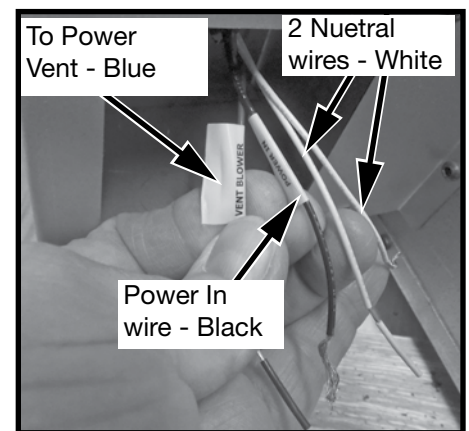
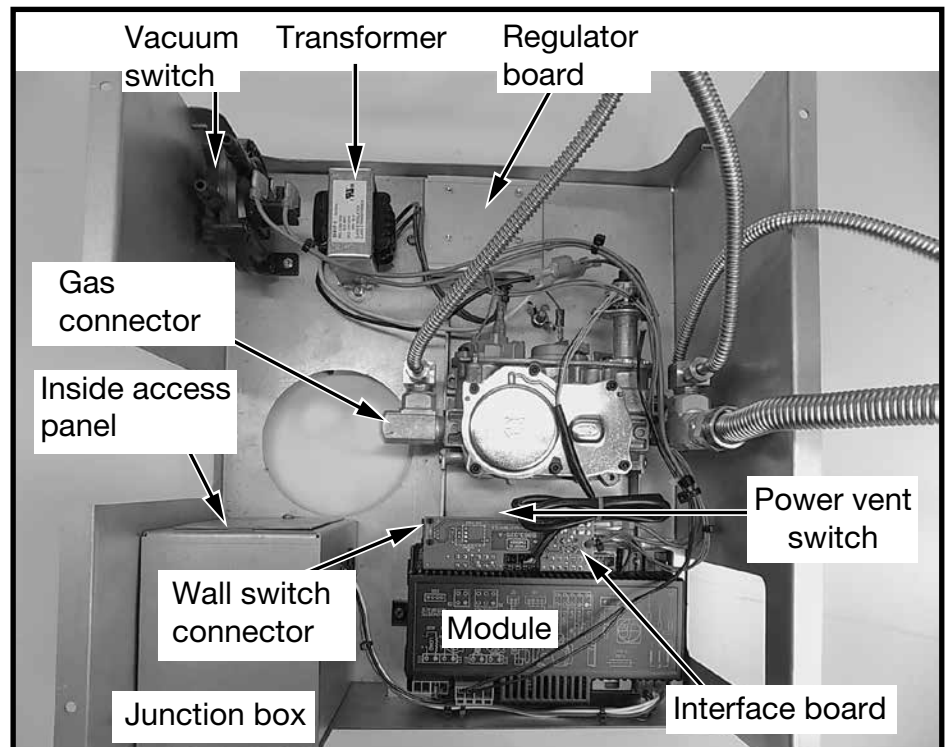

Figure 7: Junction box wiring.
Figure 8: Valve assembly components.
4. Connect 110 V. AC electrical supply to the wires installed inside the junction box (Figure 7). The fireplace is rated at 110 volts, 60Hz, 0.25A. The optional power vent kit is rated at 115 volts, 60Hz, 1.8A.
The electrical wires can be accessed from both inside and outside the junction box by removing one of the two small access panels (Figure 7) & (Figure 8).
5. Connect the gas supply to the valve (Figure 8).
6. Attach one end of the wall switch control cable to the wall control. (not shown), and the other end to the interface board (Figure 8).
The NV / PV (Natural Vent / Power Vent) switch (Figure 10) on the interface board (Figure 8) is set according to which type of evacuating vent system is present. If the fireplace is vented without the assistance of a power vent, the switch should be set to “NV”. If using a power vent, “PV” should be selected.